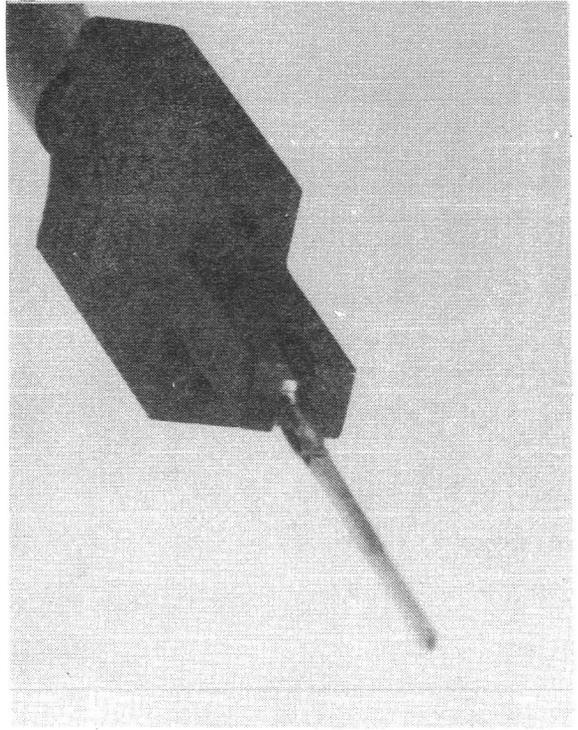

FIGURE 6
- 5.25 Turn the pin so that the slot in the pin faces the same direction as the cutout section on the head on the insertion tool as shown in Figures 6 and 7.